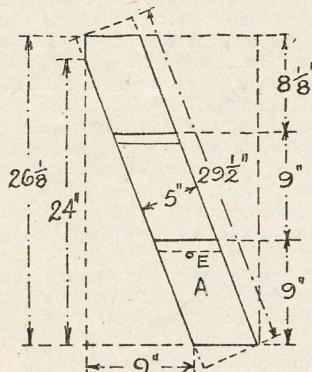

Fig. 1—How to mark out the sides
**A** PAIR of folding steps is absolutely invaluable in any household, and such a pair as shown in Fig. 1 would be quite cheaply made.
Four uprights, A, are first prepared, and the shape of one (the other three being marked out from it) may be easily set out from the simple detail shown in Fig. 1. Set out this triangle with an upright measuring 24ins. and a base line 9ins. Connect the two points as shown and then set out the width of material, which is 5 $\frac{1}{2}$ ins.
To guard against the results of rough usage, too, a  $\frac{3}{8}$ in. iron bolt might be put through the two sides just below the lowermost treads and fitted with washer and nut and tightened (see E in Fig. 1).